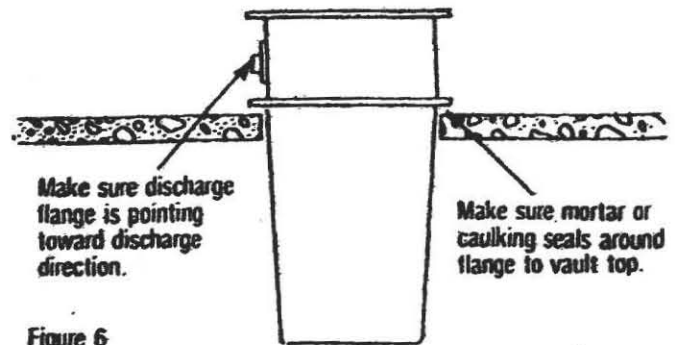

Figure 6
- F. Set the basin into the hole making sure that the mortar seals all the way around the basin flange. Care should be taken to make sure discharge flange is pointed in proper direction. (See Fig. 6).